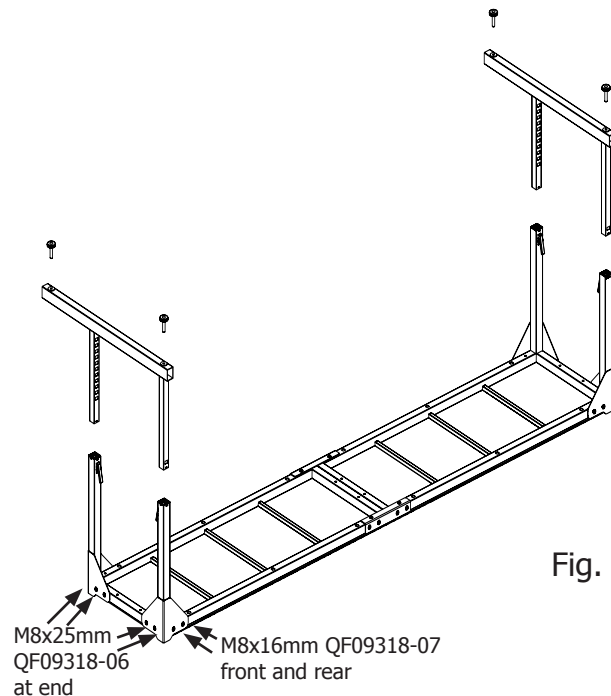

Fig. 3-2
**3-2:** Attach each upper end leg to the table with two (2) M8x16mm screws through the upper corner leg brackets at front or rear and with two (2) M8x24mm at the end. Lightly tighten for now with the 5mm Allen wrench.
**3-3:** Slide one (1) lower corner leg onto the two (2) upper corner legs on each end of the frame as shown in **Fig. 3-2** on the previous page and **Fig. 3-3**. Choose the preferred height of the frame based on the table in **Fig. 3-4**.